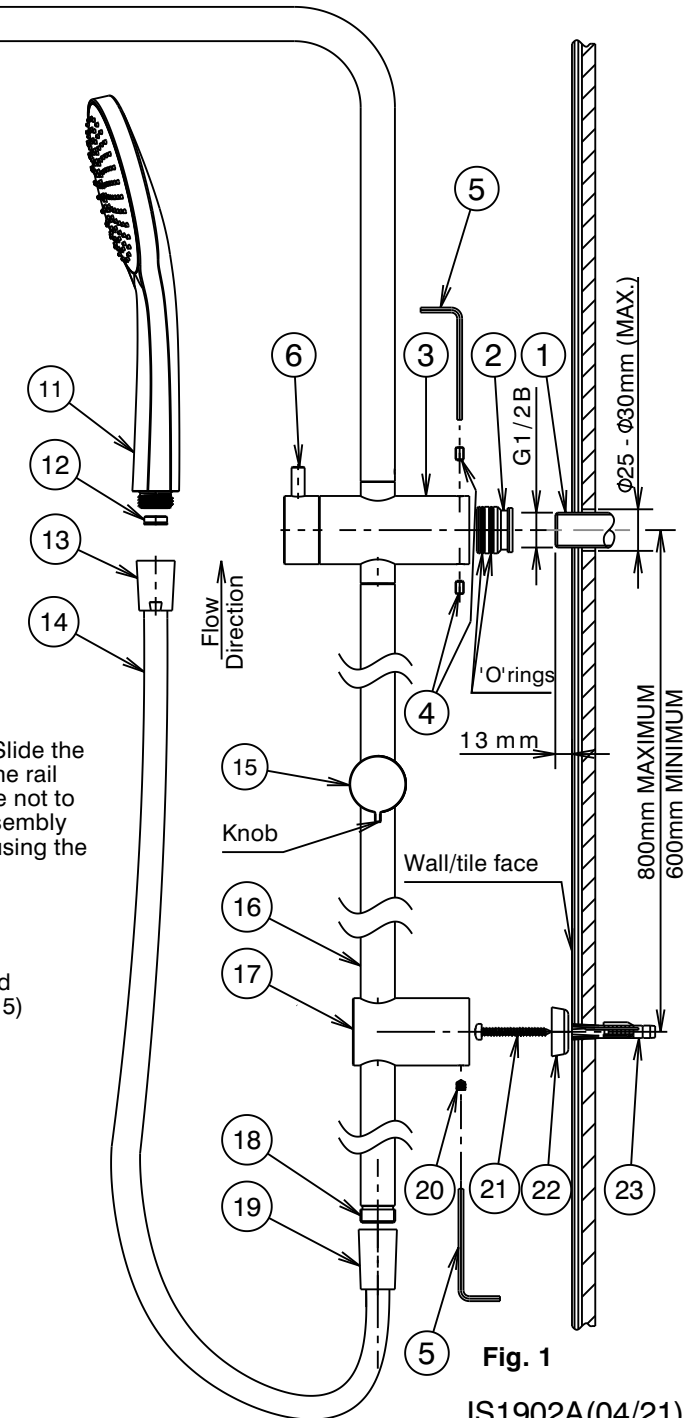

Fig. 1
- 2) Loosen grub screws (4) using 2.5mm allen key (5) & remove inlet adaptor (2) from diverter (3). Screw inlet adaptor (2) onto threaded nipple (1) & tighten until its back face has bottomed against the wall/tile face. **DO NOT OVERTIGHTEN.**
- 3) Mark the position for the shower rail mounting base (17) at a suitable distance from the threaded nipple (1). (Fig.1). Make sure the marked holes are vertically aligned before proceeding.
- ii) Insert small end of wall plug (23) into drilled hole and tap until flush with surface.**CAVITY WALLS:-** (Villaboard/tile etc)
- ii) Insert small end of wall plug (23) into drilled hole and tap until flush with surface.
- 5) Loosen grub screw (20) using 2.5mm allen key (5) & remove bracket (22) from mounting base (17). Pass the screw (21) through the hole in the bracket (22) as shown. Assemble screw (21) into wall plug (23) and tighten until bracket (22) is mounted securely against the wall/tile face.